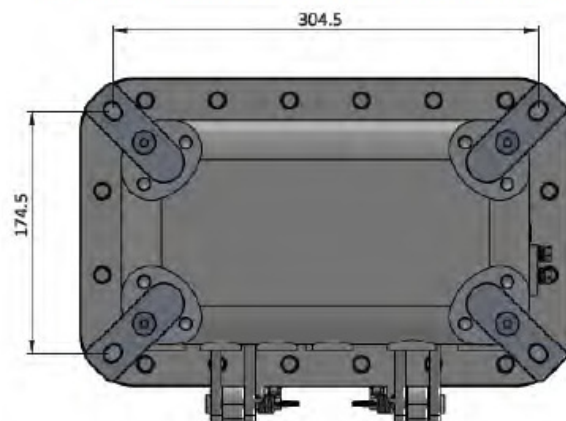
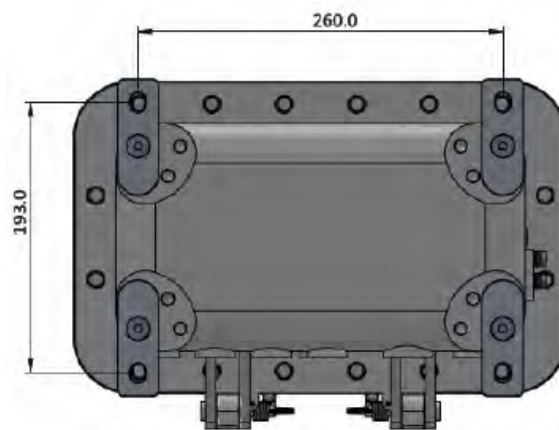

Figure 5: Kona Macro Ex Mounting Hardware Location, 45° Tab Orientation
Figure 6: Kona Macro Ex Mounting Hardware Location, 90° Tab Orientation
2. Prepare four fastening locations on the mounting structure (pilot holes, clearance holes, anchors, etc.) using the dimension guide in Figure 4, Figure 5, or Figure 6 according to the selected mounting tab orientation.